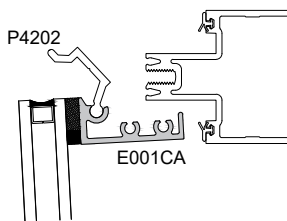

Fig. 50.1
- STEP 2: Set sill of assembled cassette frame on anchor clips P4222 and roll head of frame toward back member support framing as shown at Fig. 50.1.